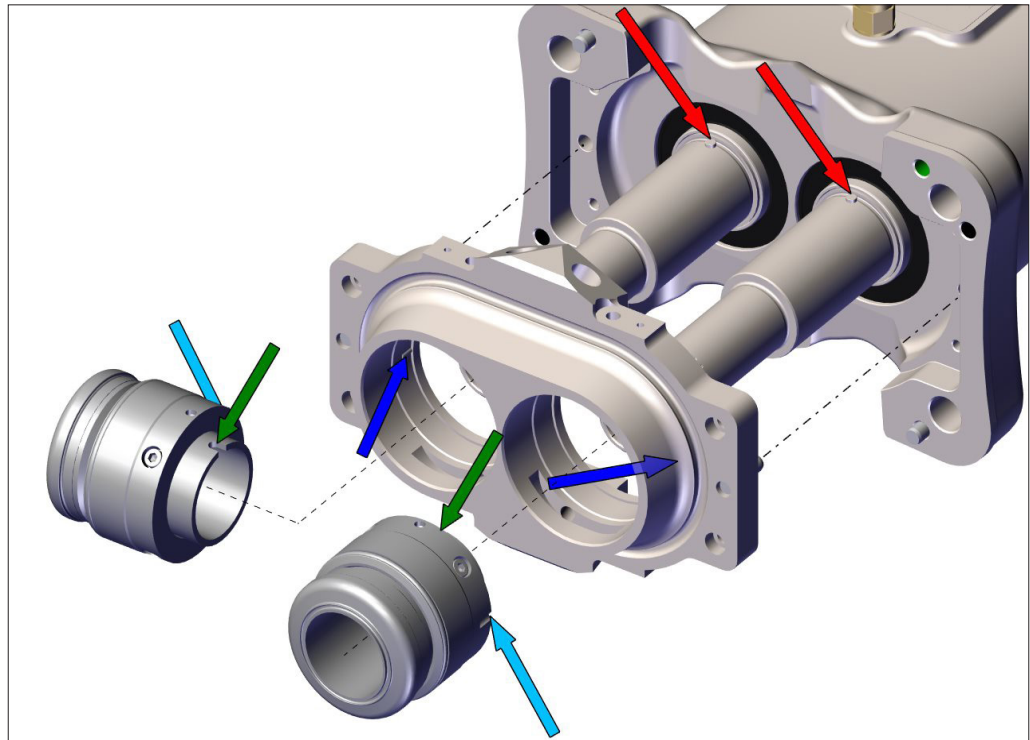

Fig. 13: Positioning slot (light blue), positioning pin (dark blue), driver slot (green) and driver pin (red)
- In order for the new GRD cartridges to be inserted, each GRD cartridge must be rotated manually (orange twist arrow) so that the positioning pin (dark blue arrow in Fig. 13) of the seal receptacle and the positioning groove (light blue arrow) of the GRD cartridge mesh. In addition, the driving pin (red arrow in Fig. 13) of the drive/output shaft and the driving groove (green arrow) of the GRD cartridge must mesh (see Fig. 13).